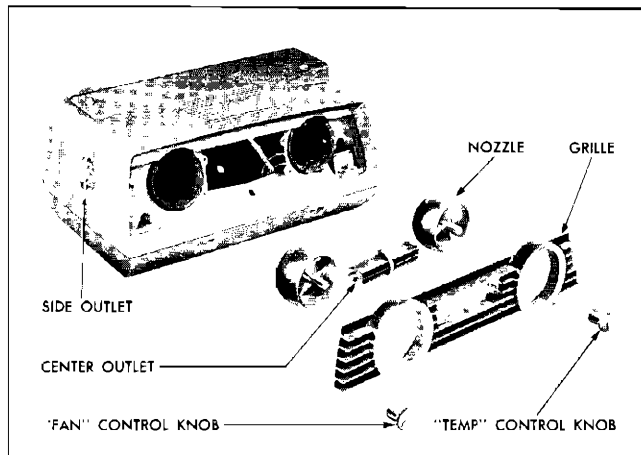

Fig. 7-37 Nozzles and Grille—Exploded View
3. Remove grille to gain access to nozzles and center outlet (Fig. 7-37).